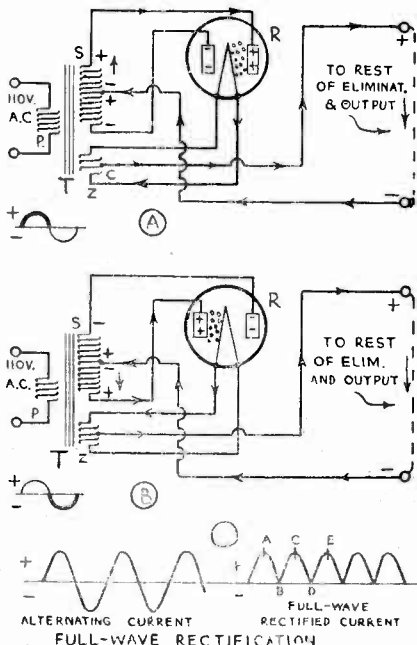

Fig. 53: The action of a full-wave rectifier system.
90. FULL-WAVE RECTIFIER: A full-wave filament type rectifier tube consists of a heated filament and two separate plates or anodes (Fig. 53). In Fig. 53A, which shows the typical circuit for a full-wave rectifier, each plate is connected to one
end of the plate winding S of the power transformer T. The filament is heated by A. C. from the filament winding Z. Both the plate winding and the filament winding have center taps connected to the external circuit as shown. A close study of Fig. 53 A and B will reveal the action of the tube.